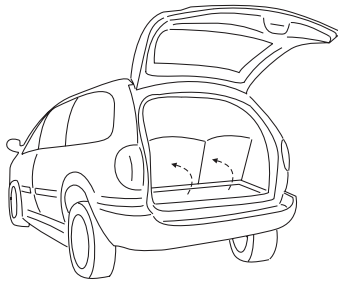

Figure 4-19
1. Fold 3rd Row seating up, exposing the storage well. **See Figure 4-19.**